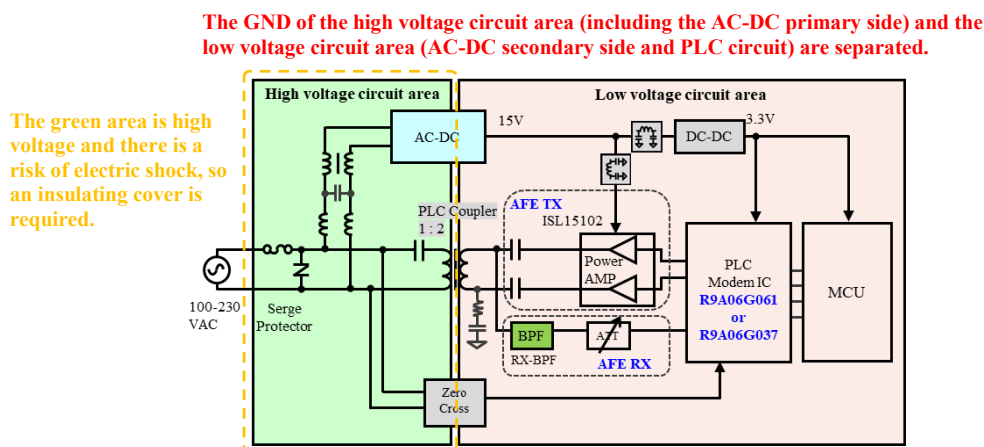
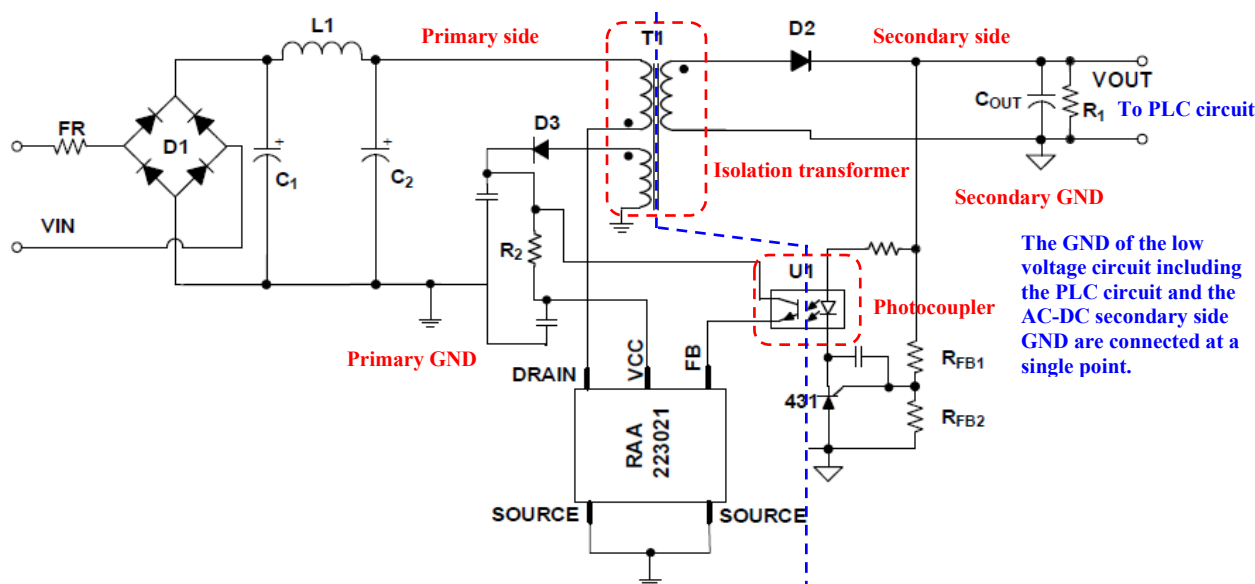

Figure 1-1 AC-PLC block diagram using an isolated AC-DC power supply circuit
Figure 1-2 Example of an isolated AC-DC power supply circuit using Renesas Electronics RAA223021
- Figure 1-1 shows an AC-PLC block diagram using an isolated AC-DC power supply circuit, Figure 1-2 shows an example of an isolated AC-DC power supply circuit using the RAA223021 manufactured by Renesas Electronics.